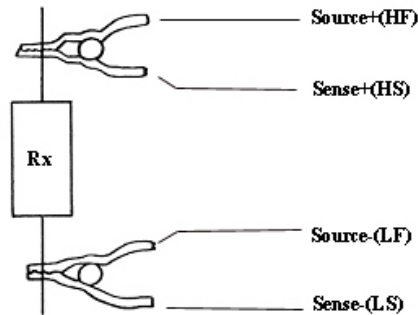

Figure 7-1
- (1) The 4-wire measurement can eliminate wire resistance and get accurate resistance. Please refer to the wiring method as Figure 7-1.